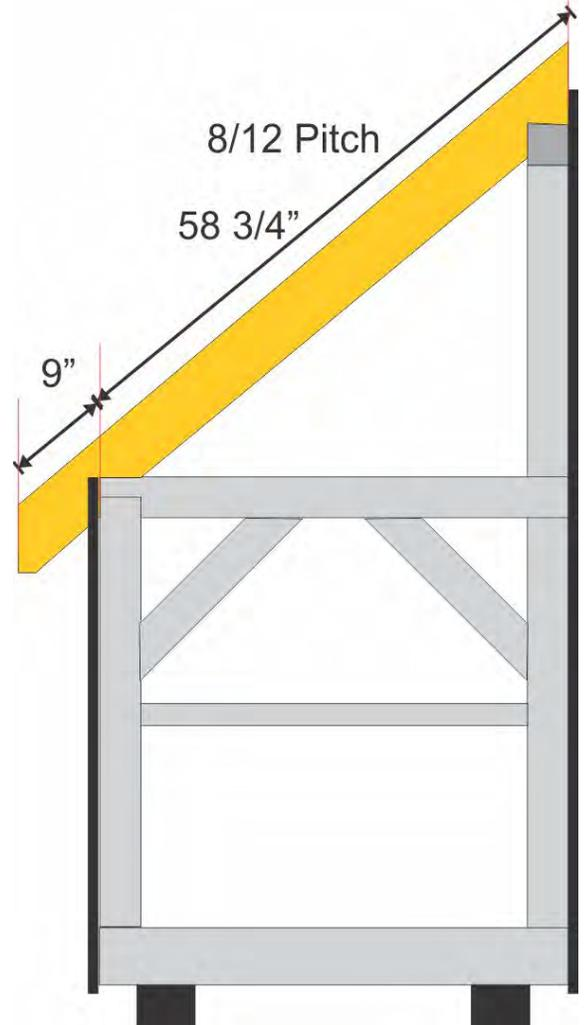

Figure 1
**Step 1.** Attach rear rafters, one at each end. Using two 16d framing nails on each 6" side of the rafter toenail it into the top plate beams. Figure 1.